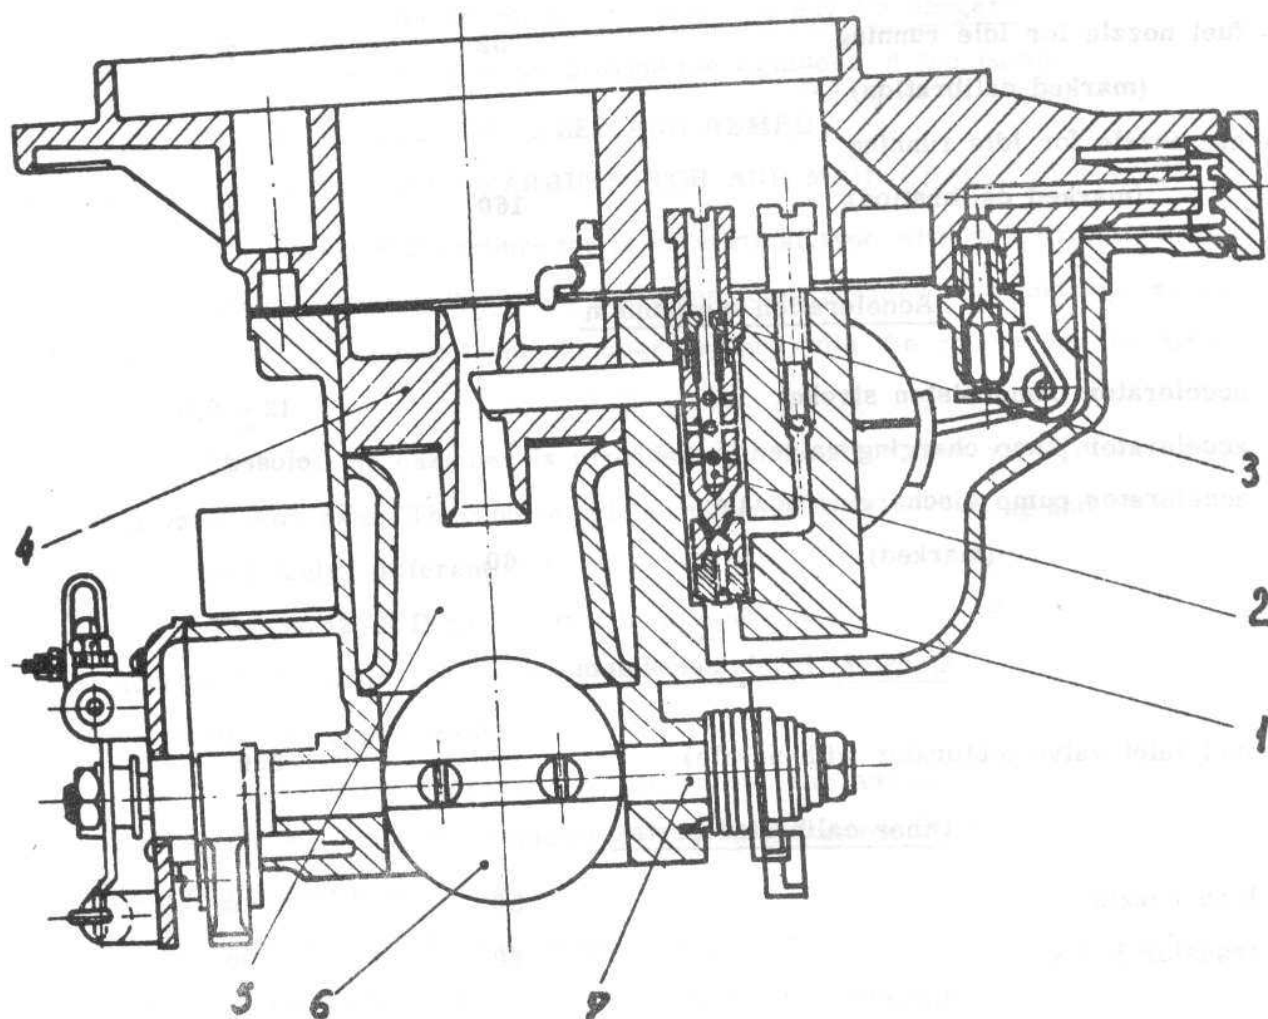

Fig. 4.5. CROSS SECTION OF CARBURETTOR.
The fuel from the constant level chamber, passes through the two main nozzles 1 (see. fig. 4.5) arrives into emulsion tubes 2, where it mixes the air that passes through the main air braking nozzles (3).